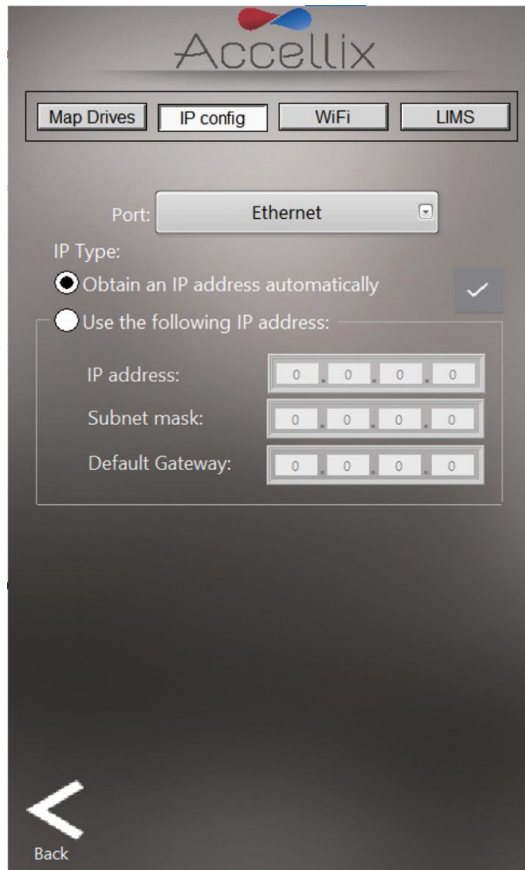

Figure 26: Network Screen: IP Config tab
2. The IP Config tab (Figure 26) allows the TCP/IP address for either of the Accellix instruments' two Ethernet ports to be configured dynamically or with a static IP address. To set a static IP: